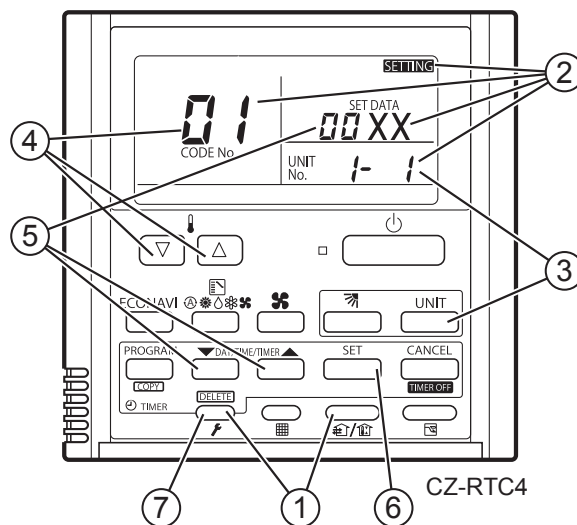

Fig. 4
- ① Press and hold the  and  buttons simultaneously for 4 seconds or longer.
- ② “SETTING”, unit No. “1-1” (or “ALL” in the case of group control), item code “01,” and settings data “00XX” are displayed blinking on the remote controller LCD display (Fig. 4). At this time, the indoor unit fan (or all indoor unit fans in the case of group control) begins operating.
- ③ If group control is in effect, press the  button and select the address (unit No.) of the indoor unit to set. At this time, the fan at the indoor unit begins operating.
- ④ Press the temperature setting  /  buttons to select the item code to change.
- ⑤ Press the timer time  /  buttons to select the desired setting data.
- ⑥ Press the  button. (The display stops blinking and remains lit, and setting is completed.)
- ⑦ Press the  button to return to normal remote controller display.